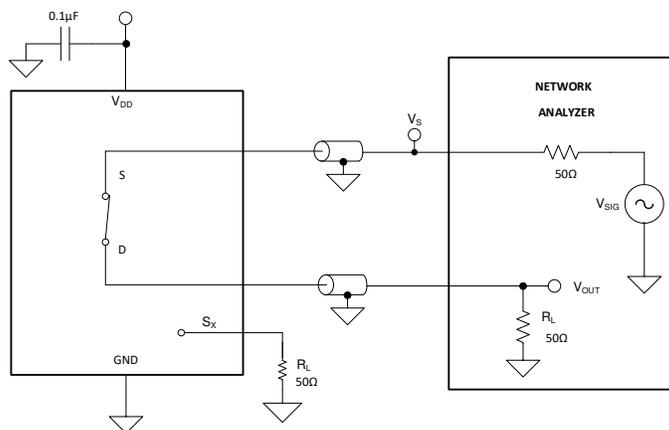

**Figure 8-9. Channel-to-Channel Crosstalk Measurement Setup**
Crosstalk is defined as the ratio of the signal at the drain pin (D) of a different channel, when a signal is applied at the source pin (Sx) of an on-channel. **Figure 8-9** shows the setup used to measure, and the equation used to compute crosstalk.